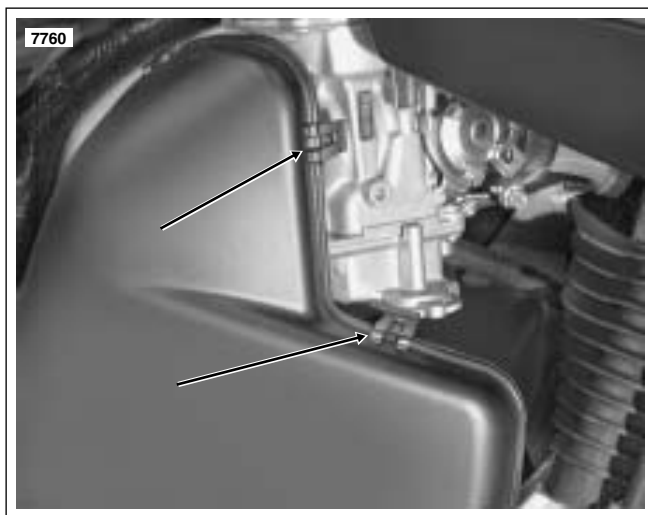

Figure 1-36. Release Air Box Cover Latches
- See Figure 1-36. Release five latches around perimeter of air box cover.